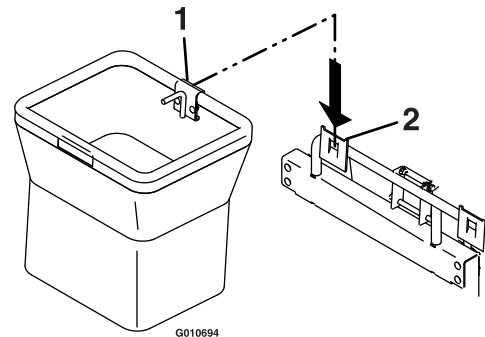

Figure 8
4. Install the bags by sliding the bag frame hook onto the retaining bracket (see Figure 8).